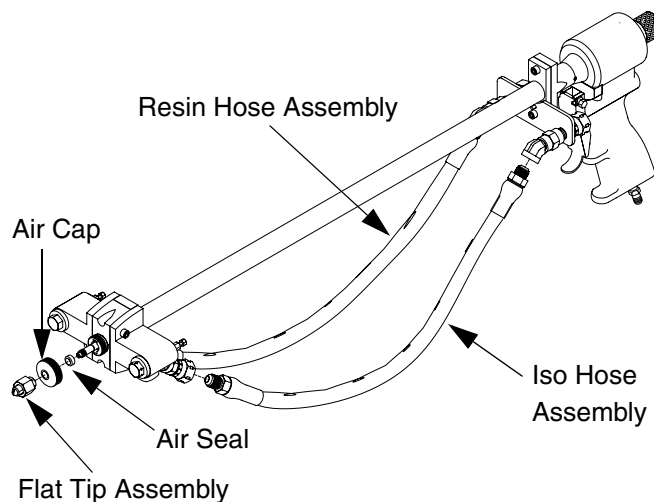

FIG. 6: Hose and Spray Tip Installation
16. Install Iso hose assembly and Resin hose assembly between A and R fittings on side blocks and hose bracket assembly as shown in FIG. 6.